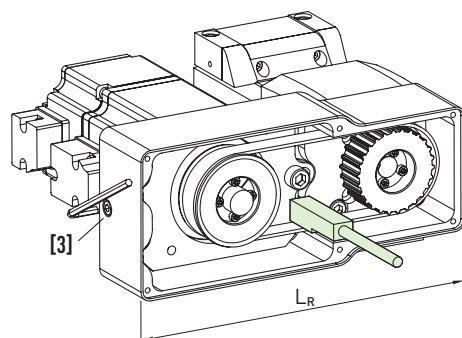

Fig. 7.47 Setting the belt frequency
- ▶ Carefully tighten the clamping bolt **[3]** on the housing's face side until the belt frequency $\pm 10\%$ calculated with formula F 7.1. This can be measured with a so called Trummeter, or belt tension meter, applied to the inside of the belt as shown in Fig. 7.47. Once the frequency is within the specified range, the mounting bolts **[2]** can be tightened on the motor flange (see Table 7.20). Tighten the bolts.